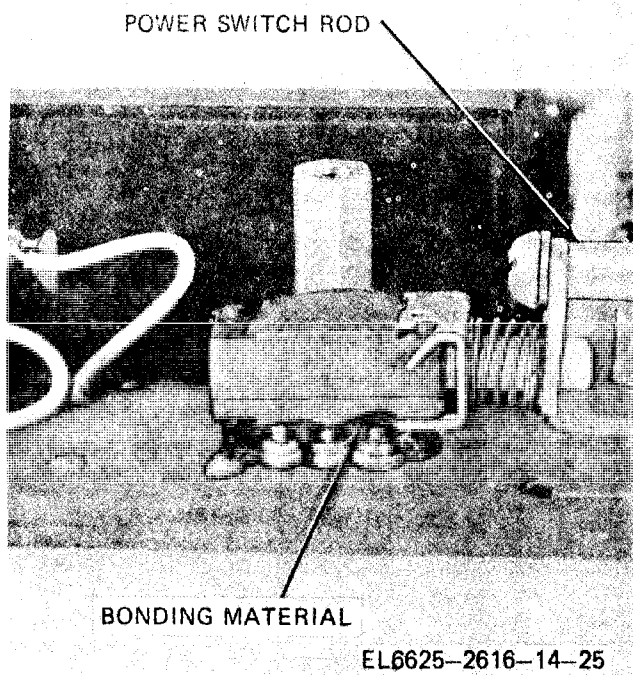

Figure 7-7. Rear power switch replacement.
(3) *Rear Power Switch Replacement.* Refer to figure 7-7 and perform the steps set forth in (2)(a) through (2)(g) above.